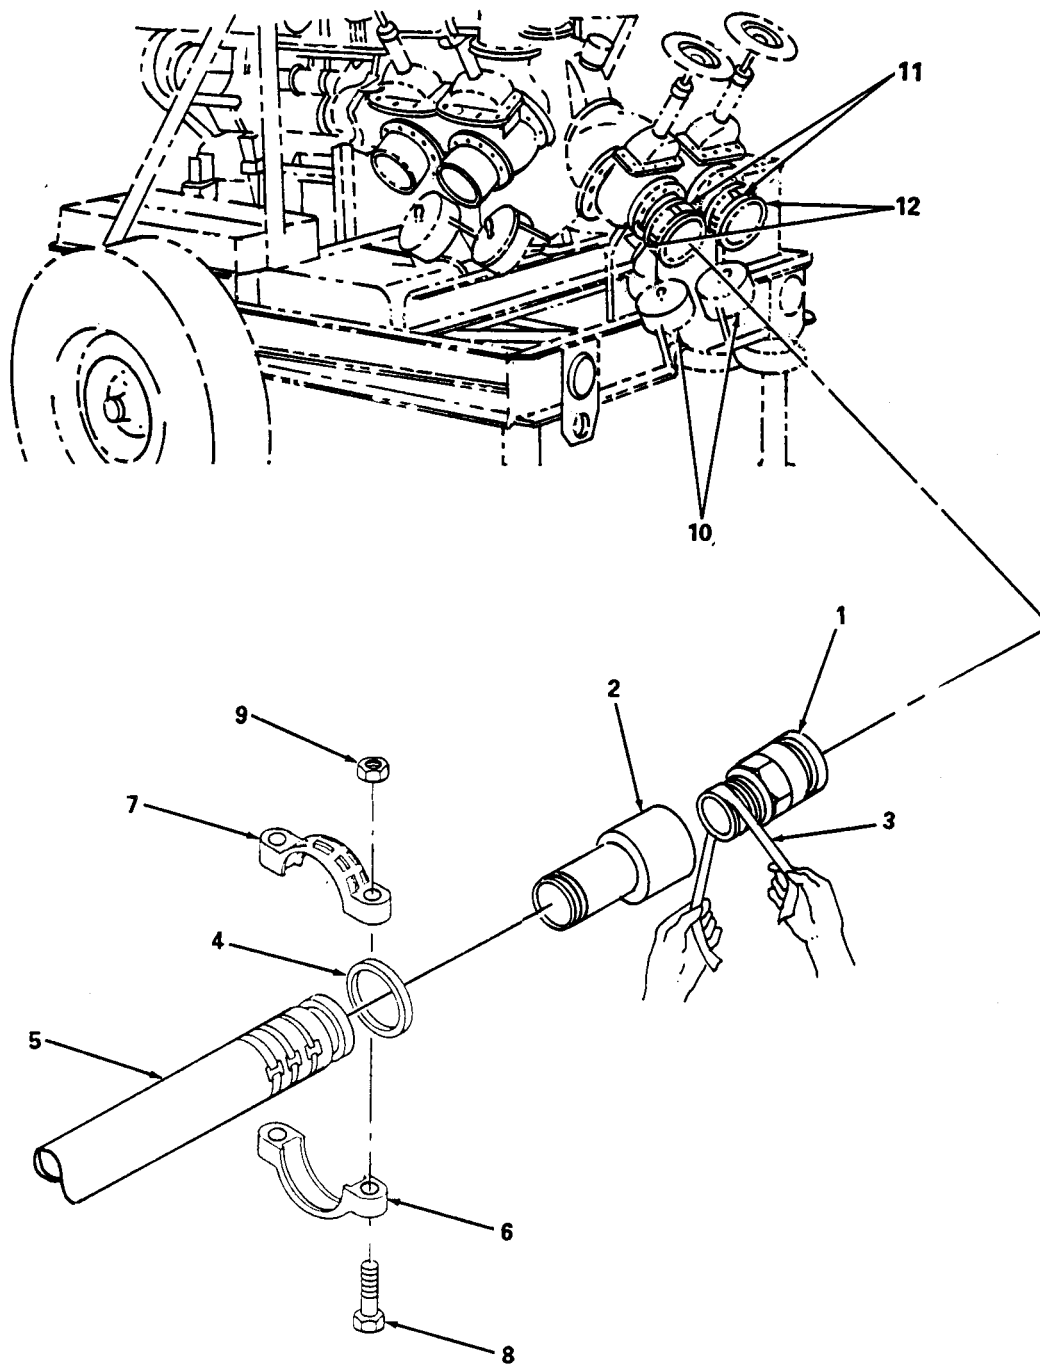

Figure 2-5. Attaching Suction Hoseline to Pumping Assembly.
a. Attaching Suction Hoseline to Pumping Assembly. (figure 2-5)
- (1) Open chest containing hoseline flow control kit.
- (2) Remove one coupling half quick disconnect (MALE) (1).
- (3) Remove one grooved-to-internal thread coupling (2).
- (4) Wrap one layer of white teflon tape (3) on threads of each coupling half quick disconnect (MALE) (1). Screw one coupling half (1) into a grooved-to-internal thread coupling (2). Coupling must be tight to prevent leakage.
- (5) Slide pipe coupling clamp rubber gasket (4) over end of hoseline (5). Make certain gasket is flush with end.
- (6) Place grooved adapter (2) in line with hoseline (5) and slide gasket (4) over joint. Center gasket in place.
- (7) Place lower pipe coupling clamp half (6) over gasket, then position upper pipe coupling clamp half (7).
- (8) install two bolts (8), and nuts (9) so that nuts (9) will be exposed on the upper coupling half (7).
- (9) Hand tighten nuts (9) evenly, then with wrench, tighten nuts evenly until coupling faces meet.
- (10) Continue tightening nuts evenly, until both bolts are secure.